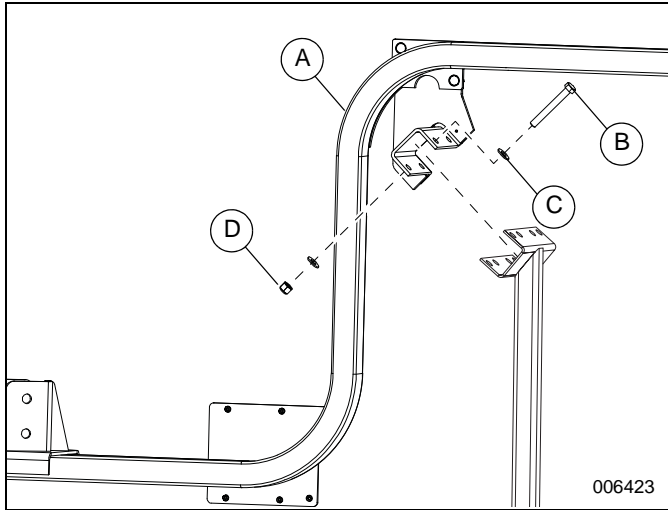

Figure 18. Bracket Installation
- See Figure 18. Install new mounting weldment. Tighten hardware to 20 ft-lb (27.2 Nm).